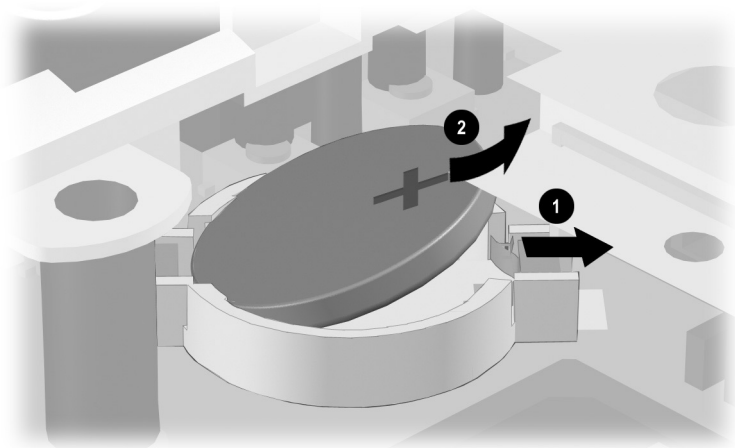

Figure 5-18. Removing the Disk Cell RTC Battery
2. Use a flat-bladed tool to press the RTC battery socket release tab ❶ to the right (Figure 5-18). The RTC battery is released from its socket.
3. Remove the RTC battery ❷.